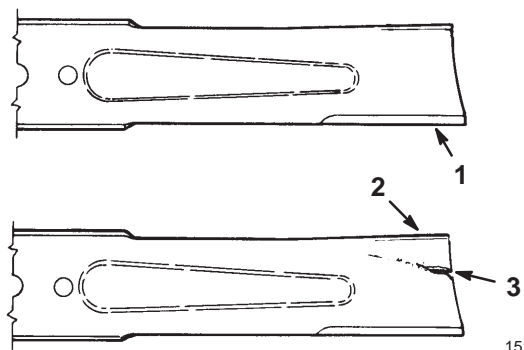

Figure 33
- Inspect the cutting edges (Fig. 33). If the edges are not sharp or have nicks, remove the blades and sharpen them; refer to Sharpening the Blades on page 30.
- Inspect the blades, especially the curved area (Fig. 33). If you notice any damage, wear, or a slot forming in this area (Fig. 33), immediately install a new blade.